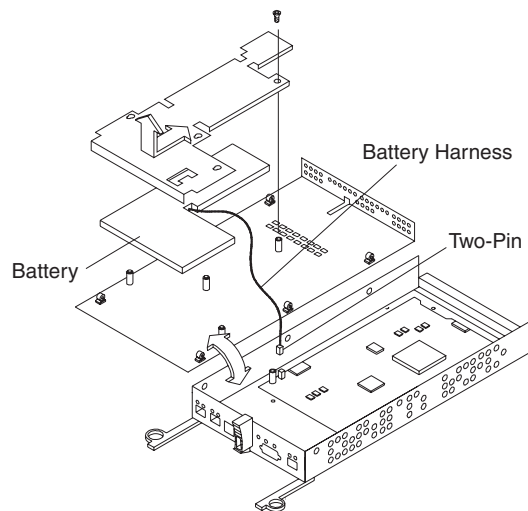

Figure 73. Removing the controller battery
8. Carefully flip over the RAID controller bottom panel. Disconnect the battery harness on the battery from the two-pin connector on the controller board, as shown in Figure 73.
11. Carefully flip over the RAID controller bottom panel. Disconnect the battery harness on the battery from the two-pin connector on the controller board as shown in Figure 73 on page 92.